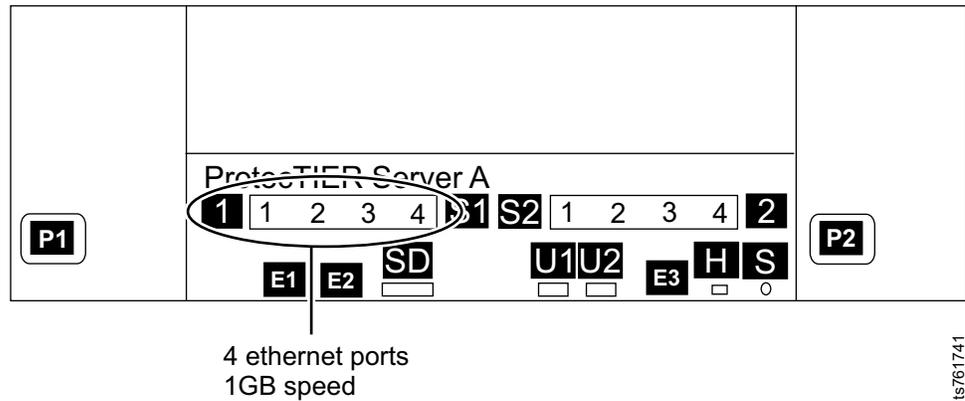

Figure 18. Customer and replication Ethernet connections for single node 1 Gb FSI configuration, Feature Code 3456
- a. Remove replication cables from server ports that are labeled **15** and **16** in Figure 18.